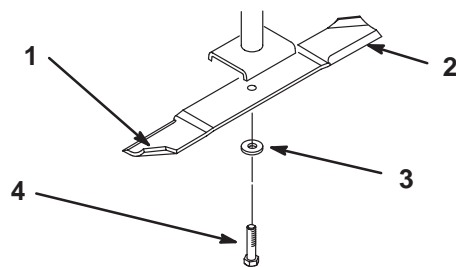
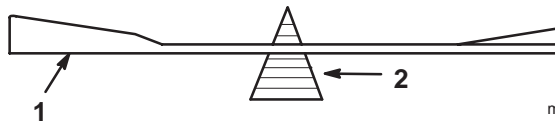

Figure 28
Figure 30
Hold the blade end using a rag or thickly-padded glove. Remove the blade bolt, spring disk, and blade from the spindle shaft (Fig. 28).
2. Check the balance of the blade by putting it on a blade balancer (Fig. 30). If the blade stays in a horizontal position, the blade is balanced and can be used. If the blade is not balanced, file some metal off of the end of the sail area only (Fig. 28). Repeat this procedure until the blade is balanced.
1. Install the blade onto the spindle shaft (Fig. 28).
2. Install the flat washer, lock washer, and blade bolt (Fig. 28). Torque the blade bolt to 85–110 ft-lb (115–150 N·m).